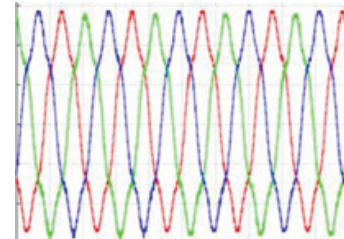

Figure 30: Harmonics in Phase with Fundamental
- If the BEMF voltage has peaks in the shape of Figure 30, set BEMF_COMP_PHASE to 0°.